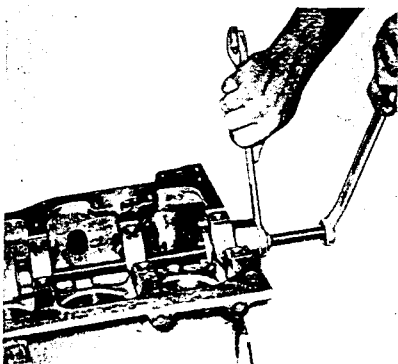

Figure 8-1-34
4. Using two wrenches, hold screw shaft and turn puller nut to pull bearing into place (see Figure 8-1-34).